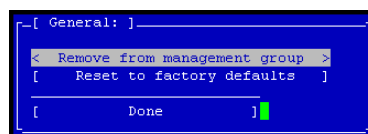

Figure 212. Resetting to Factory Defaults
1. On the Configuration Interface main menu, tab to Config Management and press Enter. The Configuration Management window opens, shown in Figure 212.